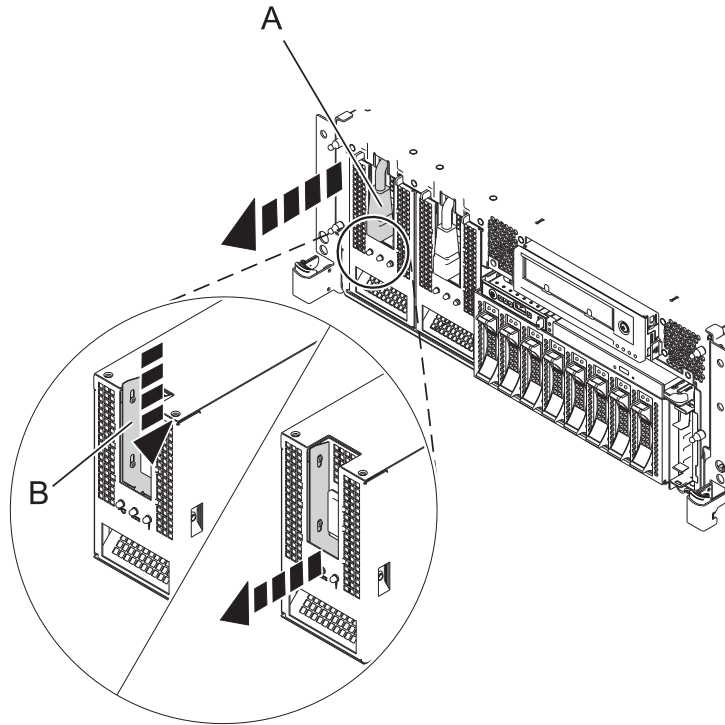

Figure 74. Removing the power supply
5. Disconnect the power cable (A) from the front of the power supply as shown in Figure 74 on page 137.
7. Press down on the locking latch (B) as shown in Figure 74 on page 137. Using the locking handle, pull the power supply out of the system.